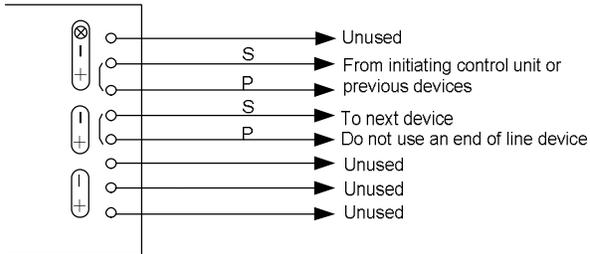

Figure 5 Terminal connection
2. Connect the feed line to the terminals on the manual signalling box according to figure 5/6.